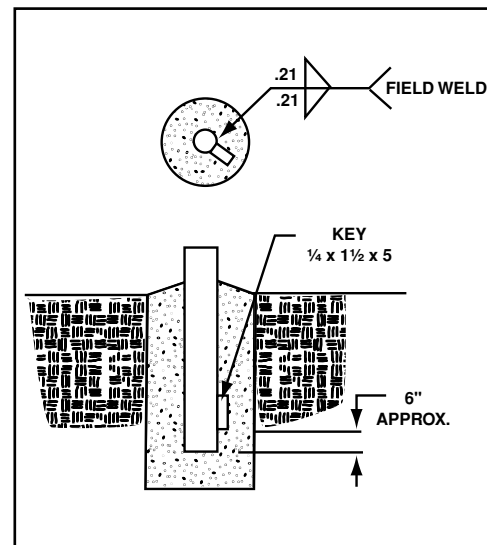

FIG. 1.0
- When wind velocity exceeds 108 MPH on the 90cm antenna at heights shown, the ground pole must be a heavy wall pipe as follows: 2" pipe (2 3/8" O.D.) Schedule 80 (.218" wall thickness) and purchased locally. Field weld 1/4 x 1 1/2 x 5 key as shown in Fig. 1.0 to prevent rotation in the concrete or use 3" O.D. ground pole and AZ/EL cap.